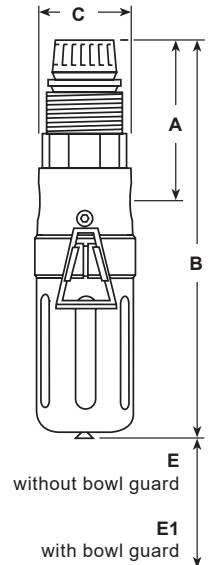

Fig. 4
- 3.3.2** Adequate space should be provided around the unit to allow easy access for routine servicing requirements (see Figure 4 for withdrawal distances).